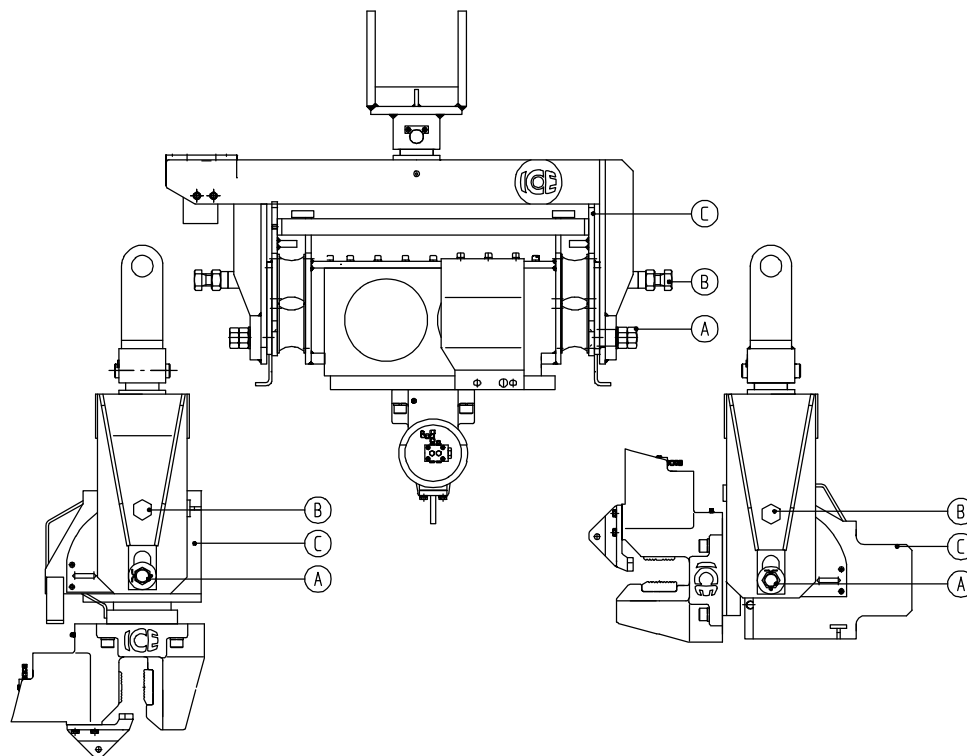

Fig. 2.02
- \* Drive the excavator forward or let the boom tilt forward so that the vibratory hammer tilts into the hinge pens A (see fig. 2.02). Make sure that the hinge pens fall in the under-most position of the long-holes.